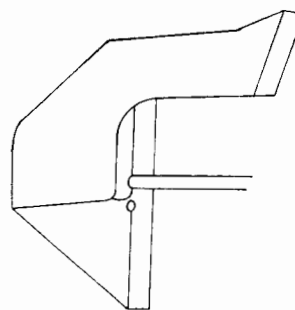

Fig. 320. Aligning the cutters.
10. Both stationary and mobile cutters (Fig. 320) can now be removed.